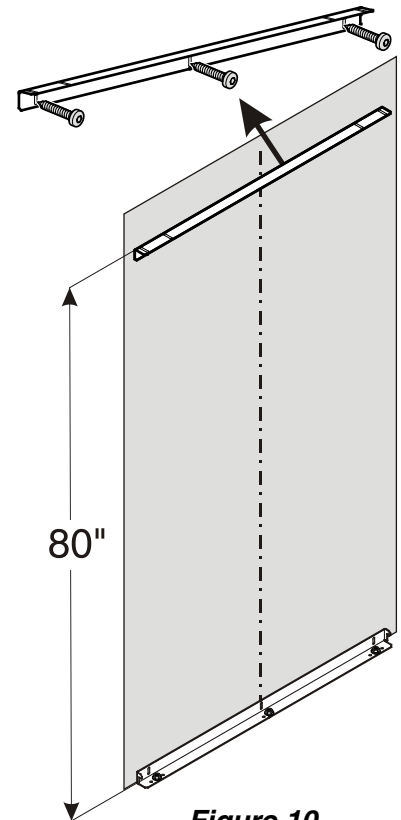

Figure 10
1. Mount the anti-tipping bracket provided on the wall using 6 x 60 screws (Figure 10).